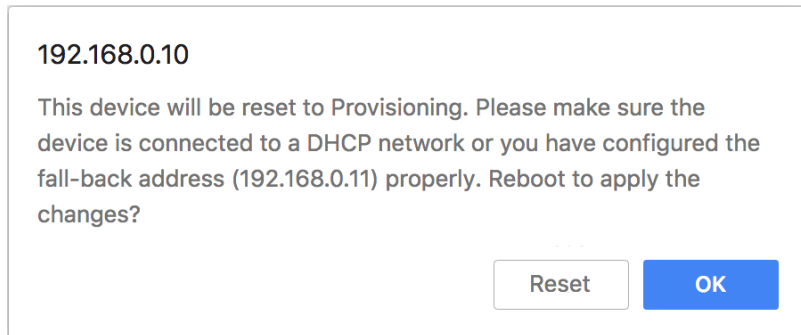

Figure 18. Unit reboot dialog (typical)
- The web browser will show the unit reboot dialog (Figure 18 \(page 65\)).